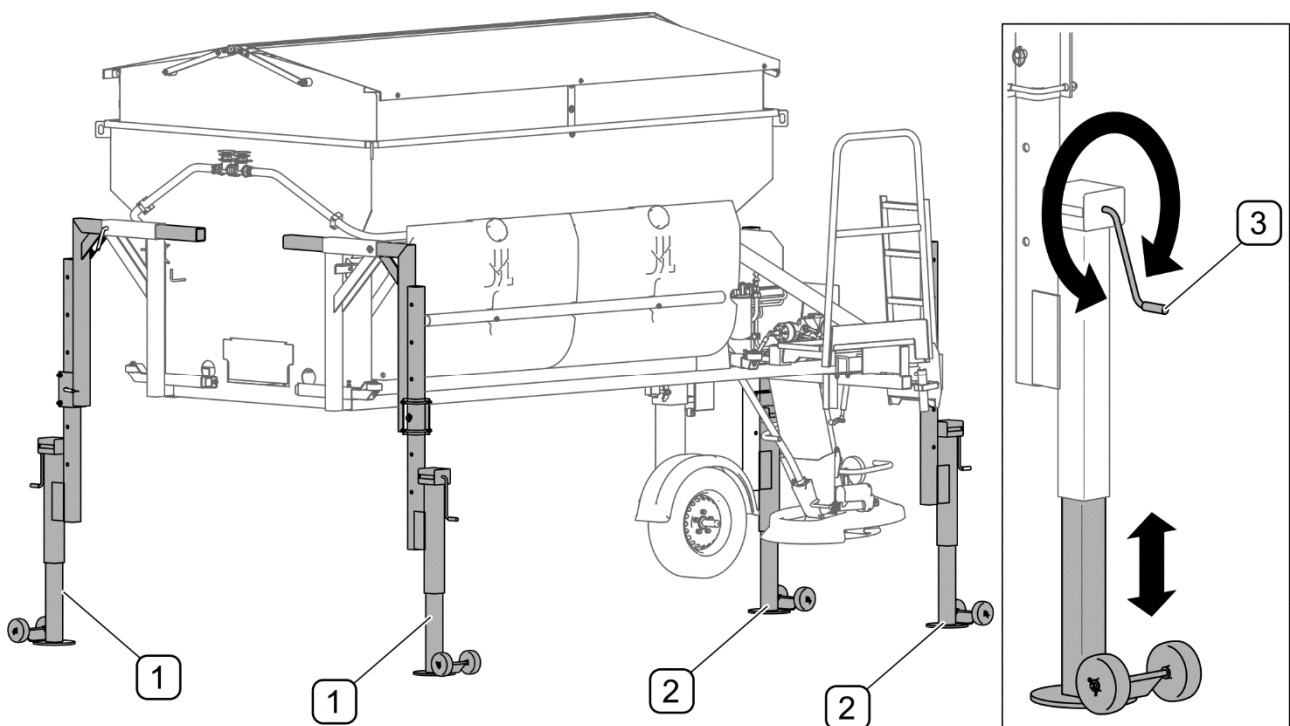

FIG. 4.1 **Parking stands (option)**
(1) - front parking stand; (2) - rear parking stand; (3) - height adjustment mechanism
If the sand spreader is equipped with adjustable parking stands (FIG. 4.1), adjust the stands properly depending on the height of the carrying vehicle's load platform. Adjustments can be made using crank mechanism (3).
- Lower the machine onto the carrying vehicle's load platform by rising successively the parking stands by means of height adjustment mechanism (3) (FIG. 4.1).